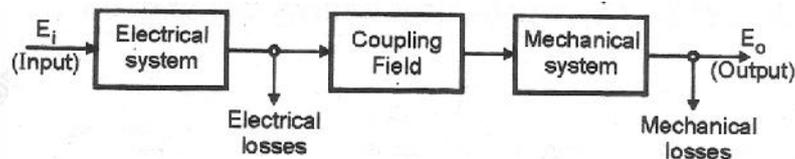

Figure-2 : Electromechanical Energy Conversion
- The block diagram of a general electromechanical conversion system is shown in Figure-2.